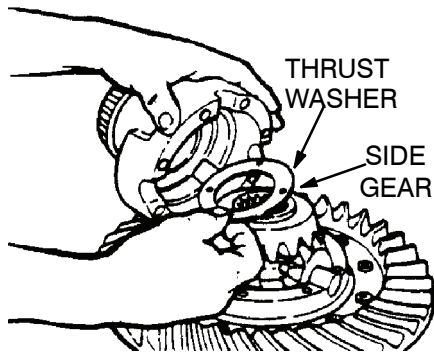

Figure 62.
- (7) Install second side gear and thrust washer. Refer to Figure 62.